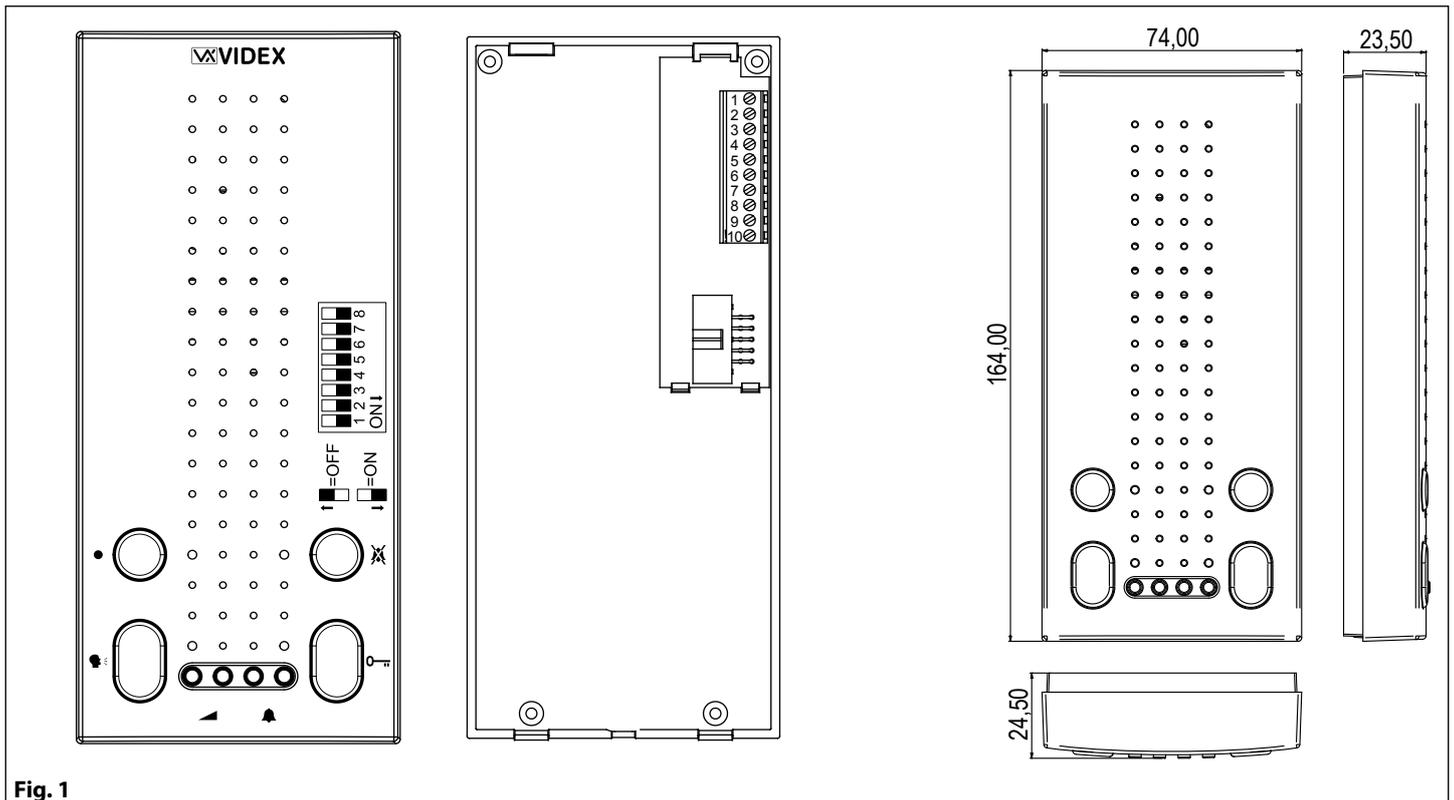

Fig. 1
- As shown in **Fig. 1**, looking at the rear of the intercom, insert the tip of a flat blade screwdriver into one of the two openings (**Fig. 1A**) then slightly move the screwdriver in an upward direction to release the front from the back plate and opening the intercom unit (**Fig. 1B**). **Take care!** The back plate of the intercom houses the pcb connection board which is normally connected to the pcb in the front of the intercom by the ribbon cable, the ribbon cable should not be connected when first opened.